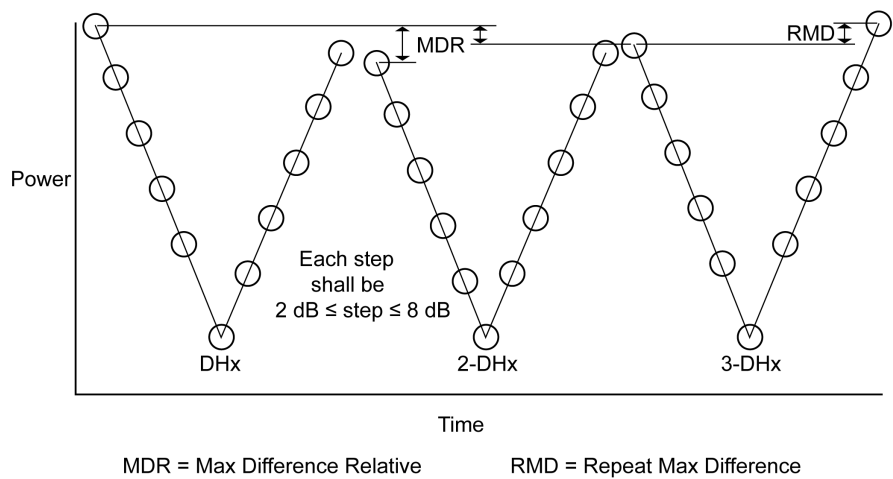

Figure 7-9. Enhanced Power Control Test
- Rpt Mx diff: Displays the maximum power level at the start of a given modulation measurement cycle relative to the maximum power at the end of the cycle. Shown as "RMD" in figure 7-9.
- Mx diff relative: Displays the maximum difference (at the same step position) in the GFSK header power for DHx to 2-DHx, and DHx to 3-DHx packets. Shown as "MDR" in figure 7-9.